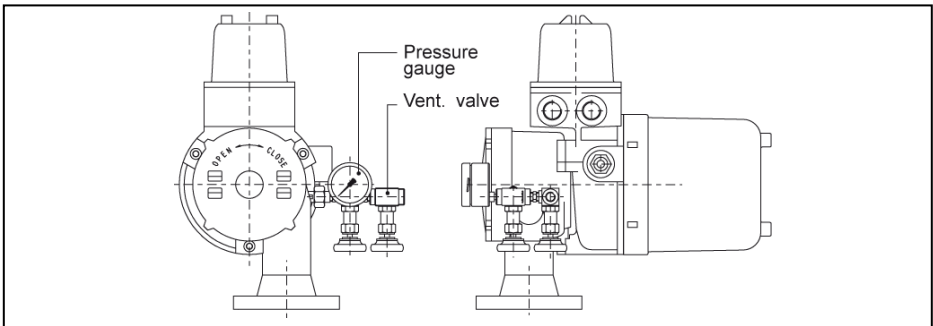

Figure 3 Mounting a pressure gauge set on a 854 Servo gauge
- 3 Mount manometer and vent valve (figure 3).